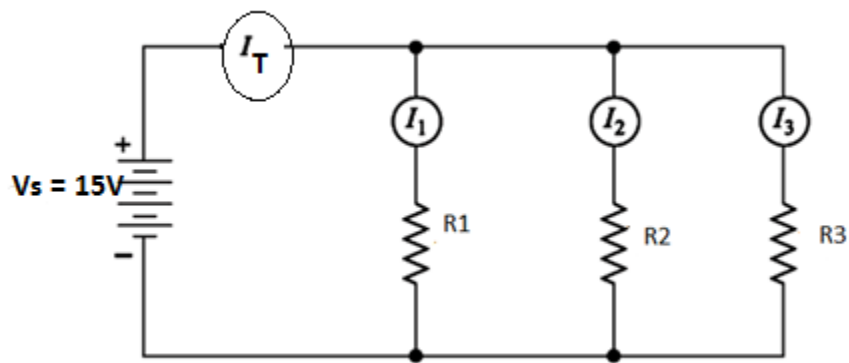

Fig. 2
1. Connect the circuit as shown in Fig.2, and measure the total current I_T and the current flowing in $R1$, $R2$ & $R3$, then record it in table below.